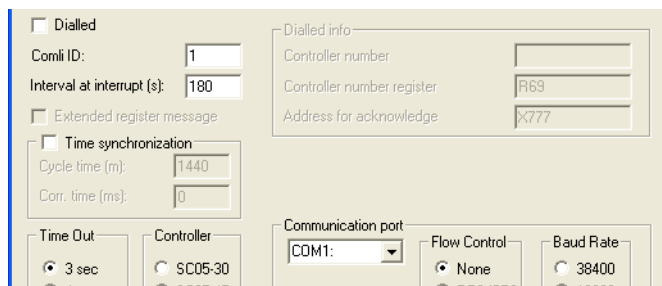

Figure 18. Communication Parameters for Comli
8. In the displayed dialog box, you can edit the driver configuration for the selected communication protocol, see Figure 18.